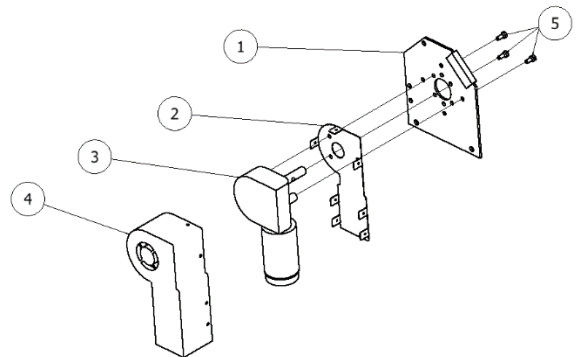

Figure 1.2
Mount the motor (3) to the tarp spool mounting bracket (1) on the driver's side of the dump box with the chrome motor cover plate (2) sandwiched between the motor and tarp spool mounting bracket. Use the three supplied M8 grade 5 bolts (5) for mounting the motor. (Figure 1.2)